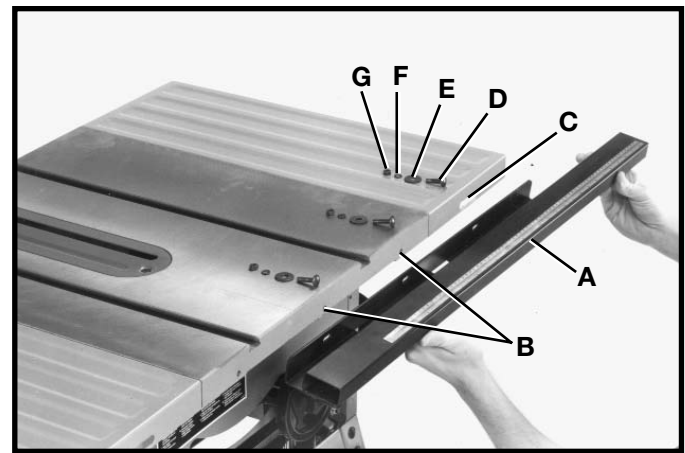
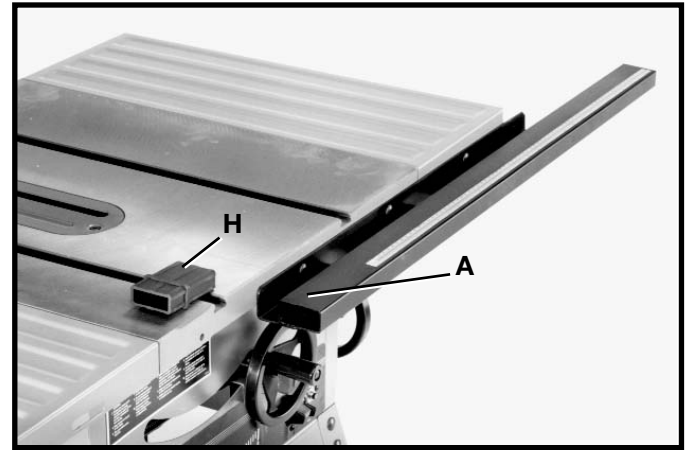

Fig. 14
Fig. 15
1. Align the three slotted holes in the front guide rail (A) Fig. 14, with two holes (B) in saw table and slotted hole (C) in extension wing. Fasten front guide rail (A) Fig. 14 to table saw with three 20MM long carriage bolts (D), flat washers (E), lockwashers (F), and hex nuts (G) as shown assembled in Fig. 15. **NOTE:** Do not completely tighten hardware at this time.
2. Insert longer end of front guide rail extension connector (H) Fig. 15, into end of guide rail (A).